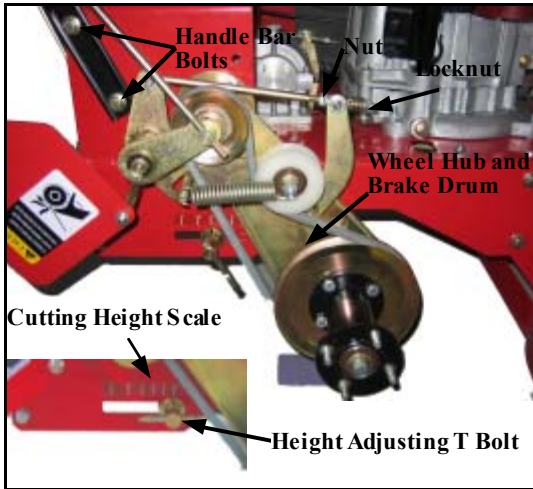

FIG 11 Brake Linkage
WHEEL BRAKE ADJUSTMENT FIG 11
5. To adjust the Rear Wheel settings refer to FIG 11. Loosen both height adjusting T-Bolts. Unlock the Rear Wheel Height Adjusting Handle FIG 15. Rotate the Handle clockwise to raise and counterclockwise to lower the Rear Wheels. Align the pointer on the register mark which corresponds with the number of Caster Spacers on the bottom of the Caster Wheel Bracket.